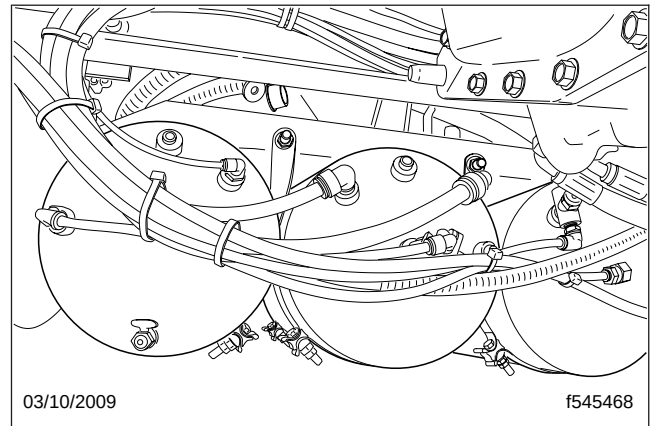

Fig. 2, Air Lines (inboard view of the air tanks)
5. Disconnect the air lines from the three air tanks mounted on the bottom of the battery box. The air lines are located on the inboard side of the air tanks, under the vehicle. See Fig. 2.